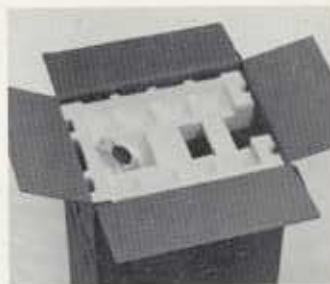

Fig 1
1. Having opened the carton, remove the wooden bass plate to reveal the accessory bag, the contents of which are illustrated in Fig 1. It is most important to leave the top polystyrene in position until assembly has been completed as this protects the tweeter assembly which is fragile.